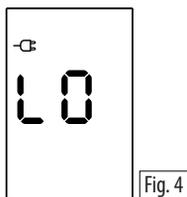

Fig. 4
- with the appliance in ON mode, press the ECO button for 5 seconds and the display will show (see fig. 4):